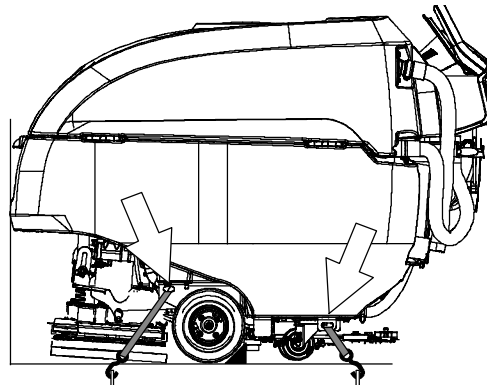

FIG. 98
4. Place a block behind each wheel (Figure 98).
5. Using tie-down straps, secure the machine using the four tie-down brackets located on the machine frame (Figure 98). It may be necessary to install tie-down brackets to the floor of your trailer or truck.